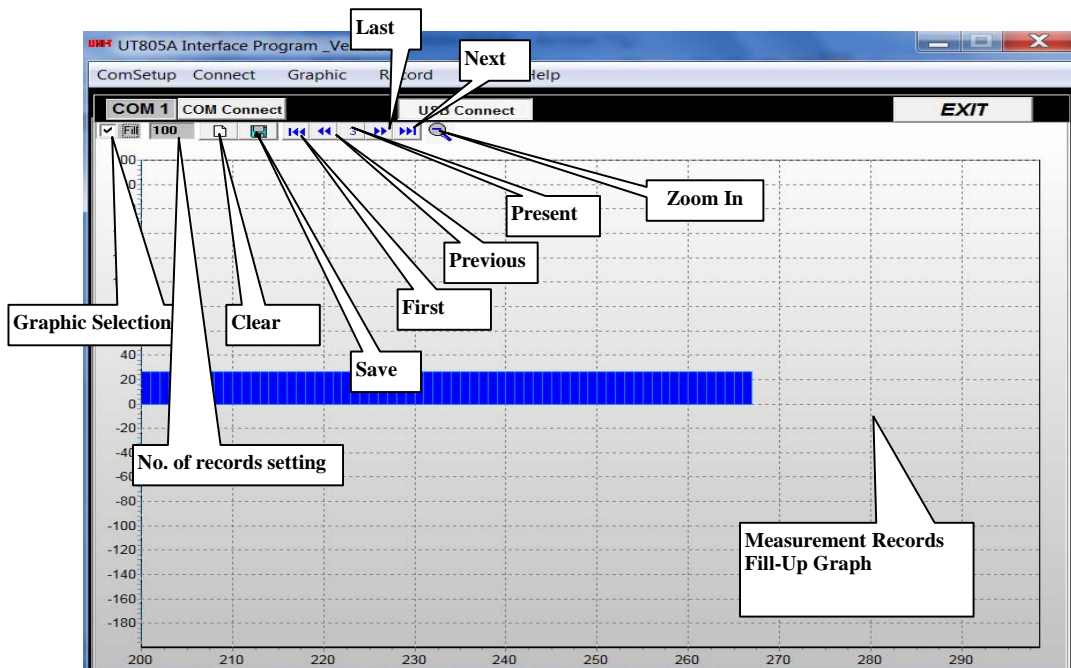

Figure 18
6.1 The sketch operation, such as the figure 18
This computer links the software, can measure the data in the process record, and carry on sketch's draw according to the number record, seeing the figure 18. In sketch draw window way, save the dish, clearance, the choice and sketches of the appearance page code enlarge to the whole appearance, still having the data piece enactment, and existing sketch that each page sketch include to enlarge moreover and the manifestation method choice of the sketch, explain now.